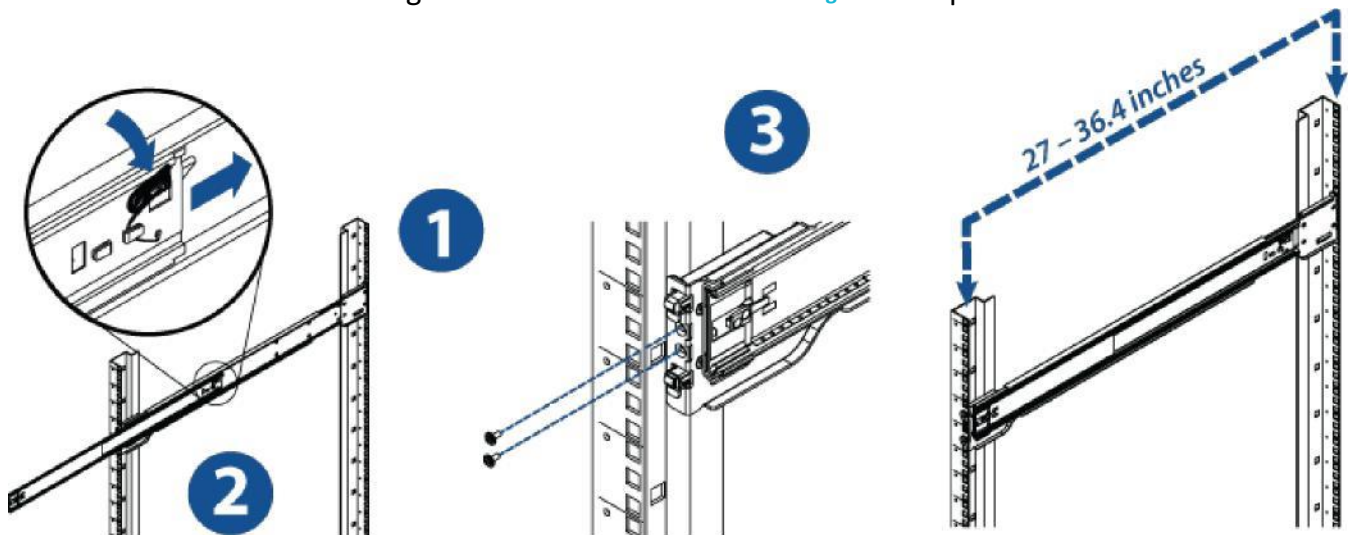

Figure 10: Attach Outer Rails to the Rack
5. Press the button where the two outer rails are joined to retract the smaller outer rail as illustrated in Figure 10 steps 1 and 2.
6. Secure the front end of the outer rail to the rack by hanging the hooks of the rails to the rack holes and securing with screws as illustrated in Figure 10 step 3.